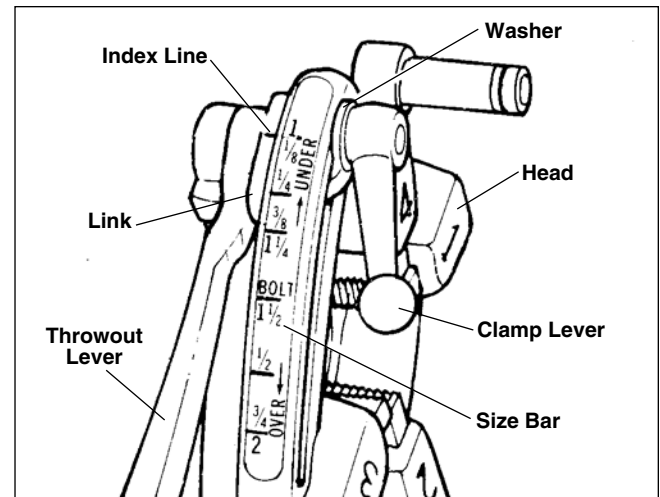

Figure 7 – Universal Quick-Opening Die Head
6. Quick-Opening 811A Die Head (Figure 7) – When thread is completed, raise throwout lever to open position, retracting dies.
The No. 811A Universal Die Head (*Figure 7*) for right hand threads requires four sets of dies to thread pipe ranging from  $\frac{1}{8}$ " through 2". One set of dies is required for each of the following pipe size ranges: ( $\frac{1}{8}$ "), ( $\frac{1}{4}$ " and  $\frac{3}{8}$ "), ( $\frac{1}{2}$ " and  $\frac{3}{4}$ ") and (1" through 2"). Bolt threading requires a separate set of dies for each bolt size. No bolt dies are available for left hand universal die heads.